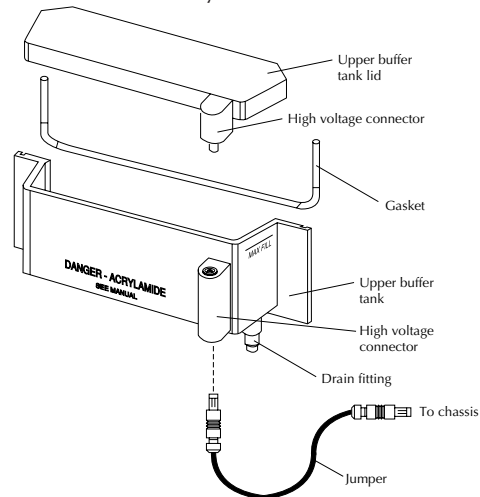

Figure 5-14. Upper buffer tank connections.
16. Place the upper and lower buffer tank lids onto the tanks. Insert the power cable on the upper buffer tank and connect it to the high voltage connector on the instrument chassis, as shown in Figure 5-14. Make sure that both connectors are fully inserted.